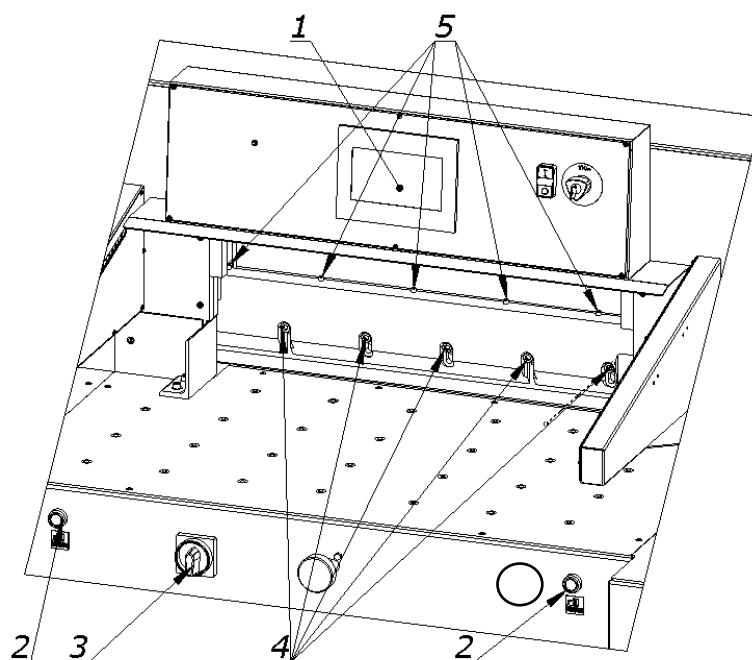

Figure 35.
8.1.2.9 Pressing the push buttons 2 (fig. 35) at the same time, start the cutting cycle. The knife will stop in the lower position.
8.1.2.12. Unscrew the fixing screws 4 (fig.35) so that the knife falls under its own weight on the base bar with its entire length.
8.1.2.13. Tighten the adjustment screws 5 (fig. 35) as far as they will go, so that the blade of the knife is cut into the slat, approx. 0.3 mm.
8.1.2.14. Tighten the mounting screws 4 (figure 35)
8.1.2.15 Switch on the power supply of the electrical system by turning the main switch knob 3 (fig. 35) to position "I".
8.1.2.16. Switch off the "knife change" function on the programmer 1 (fig.35)
8.1.2.18. Turn off the power supply of the electrical system by turning the main switch knob 3 (fig. 35) to the "0" position
8.1.2.20. Turn on the power supply of the electrical system by turning the knob of the main switch 3 (fig.35) to position "I"